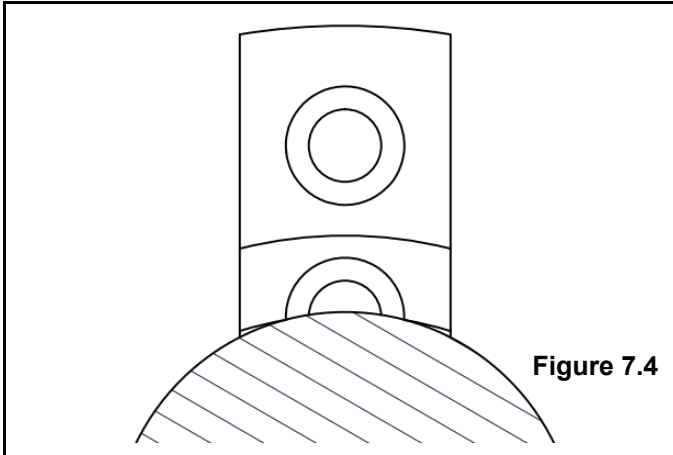

Figure 7.4
9. In situations where the top jaws' counter bored mounting bolt holes interfere with the clamping diameter, it is very important that the top jaw's clamping diameter is machined to the exact diameter of the workpiece diameter. Otherwise two-line contact occurs during clamping as shown in Figure 7.4, which will result in a loss of chucking accuracy.